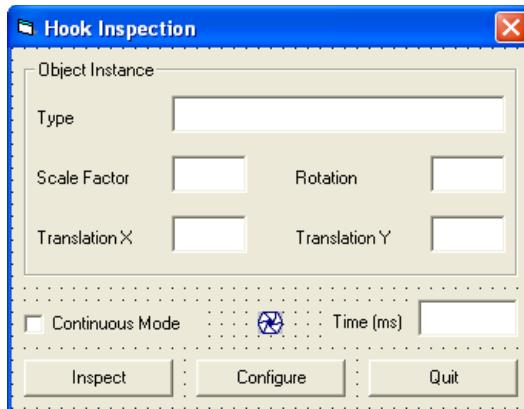

Figure 52 Visual C++ Dialog with HexSight Application Control
2. Scroll down to find **HSApplication Control**. Select it and click **OK**. The HexSight Application Control appears as a new icon in the dialog template. Place it as shown in Figure 52.